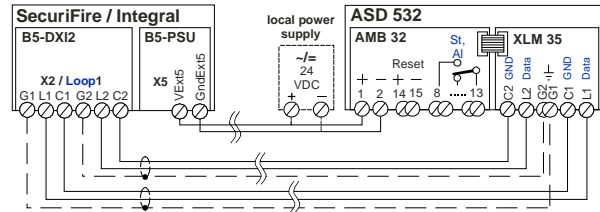

Fig. 25 Connection from XLM 35
- The connection and line routing between **XLM 35** and the SecuriFire and Integral FACP is to be carried out in accordance with Fig. 25 (L1 to L1, C1 to C1, etc.).